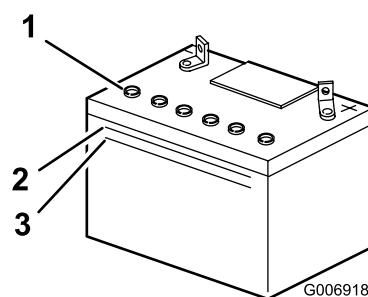

Figure 27
2. Look at the side of the battery. The electrolyte must be up to the Upper line (Figure 27).
Note: Do not allow the electrolyte to fall below the Lower line (Figure 27).
3. Remove the vent caps from the battery (Figure 27).
4. Slowly pour distilled water into each battery cell until the electrolyte level is up to the Upper line (Figure 27) on the battery case.
- Wait 5 to 10 minutes after filling the battery cells. Add distilled water, if necessary, until the electrolyte level is up to the Upper line (Figure 27) on the battery case.